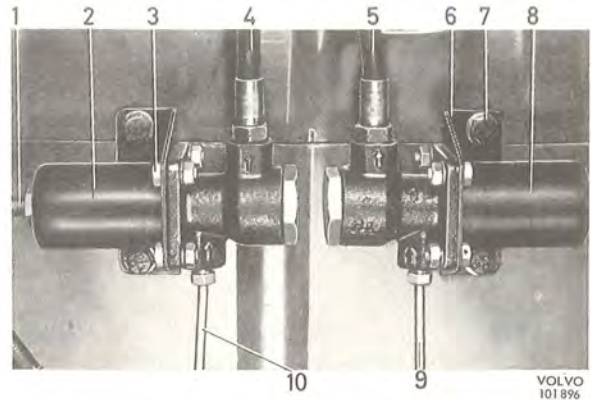
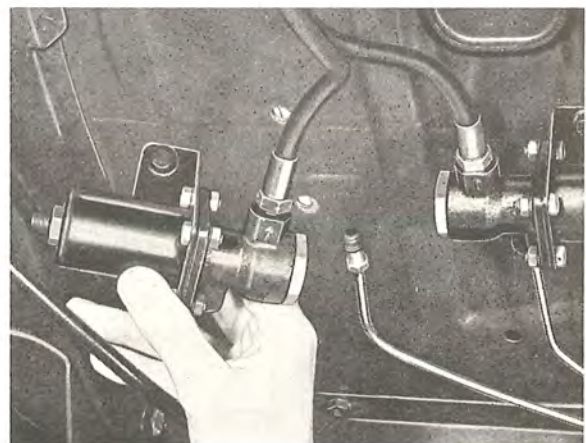

Fig. 5-57. Brake valves fitted
Fig. 5-58. Removing the brake valve
Unscrew and plug the brake pipe connection (10, Fig. 5-57). Slacken the brake hose (4) a max. 1/4 turn at the valve. Remove the attaching screw and unscrew the valve from the brake hose, see Fig. 5-58.
Screw the brake valve on to the brake hose, see Fig. 5-58. Place the valve in position and check that there is no tension in the hose. Fit the attaching screws and connect up the brake pipe. Tighten the connections. Vent the brake system.